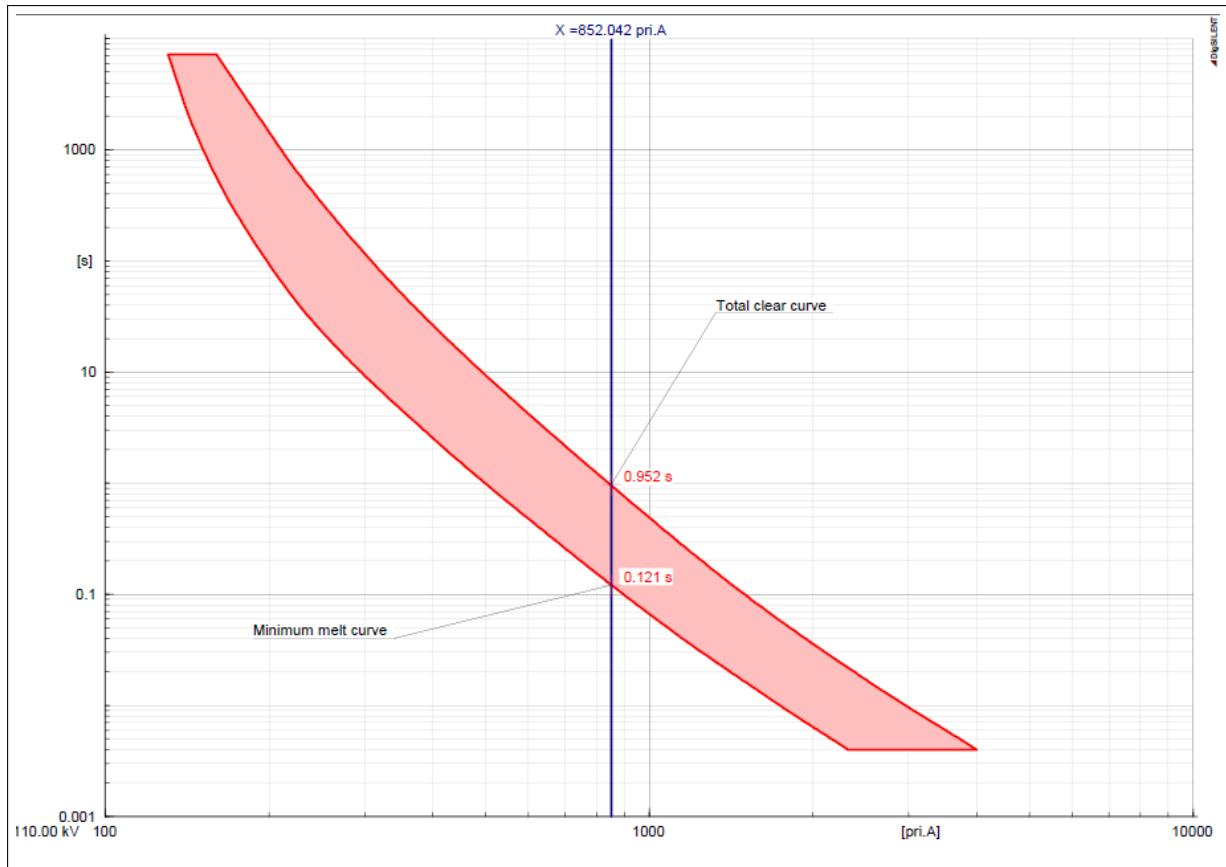

Figure 33.3.3: Fuse melt characteristics
**Compute Time Using** Many fuses are defined using a minimum melt curve and a total clear curve as illustrated in Figure 33.3.3 - the idea is that for a given current, the fuse would generally melt at some time between these two times. In *PowerFactory* it is possible to choose whether the trip/melt time calculations are based on the minimum melt time or the total clear time.